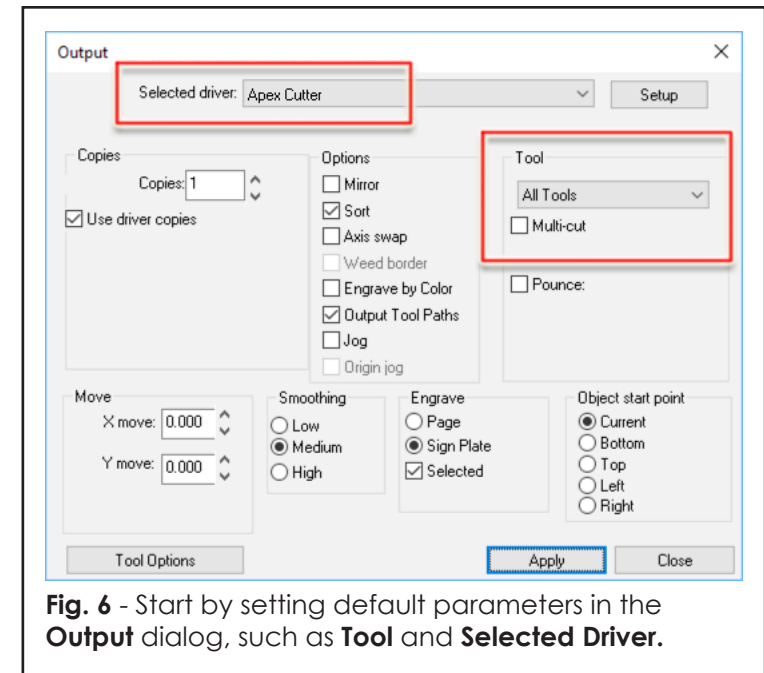

Fig. 6 - Start by setting default parameters in the **Output** dialog, such as **Tool** and **Selected Driver**.
3. From the **Engrave** menu, choose **Engraving Defaults**. The **Output** dialog will open (Fig. 6).